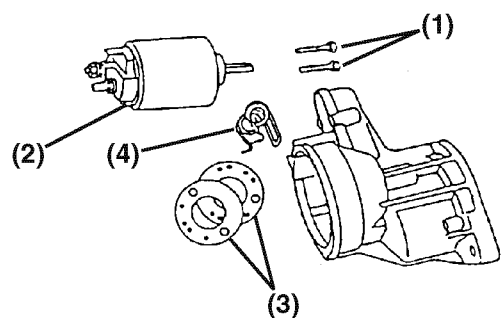

Figure 11-7
7. Remove the two M6 bolts (**Figure 11-7, (1)**) retaining the magnetic switch assembly (**Figure 11-7, (2)**) to the gear housing. Remove the magnetic switch assembly, dust cover(s) (**Figure 11-7, (3)**) and torsion spring (**Figure 11-7, (4)**) from the gear housing.